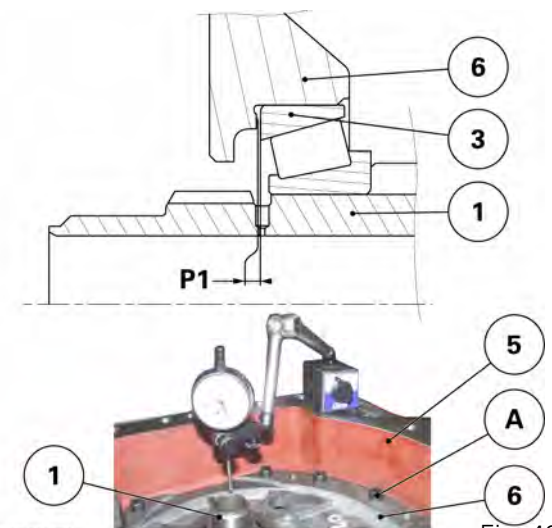

Fig. 42
111. Refit the cover (6) on the housing (5). Fit and tighten the cover screws (A) (Fig. 42).
112. Place a dial gauge feeler pin at the end of the primary shaft (1). In order to correctly seat the bearings, pull and push hard on the shaft while turning it (Fig. 42).
123. Place a dial gauge feeler pin at the end of the secondary shaft (13). In order to correctly seat the bearings, pull and push hard on the shaft while turning it (Fig. 42).